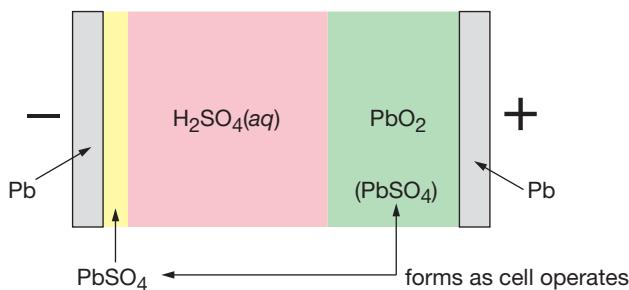

FIGURE 2.12
Figure 2.12 shows the cell schematically. In the charged state the negative electrode is lead while the positive is lead coated with lead(IV) oxide, PbO₂. The electrolyte is approximately 5 mol/L sulfuric acid. As the cell generates electricity, both electrodes become coated with insoluble lead sulfate, and the concentration of the sulfuric acid solution decreases. The electrode reactions are: